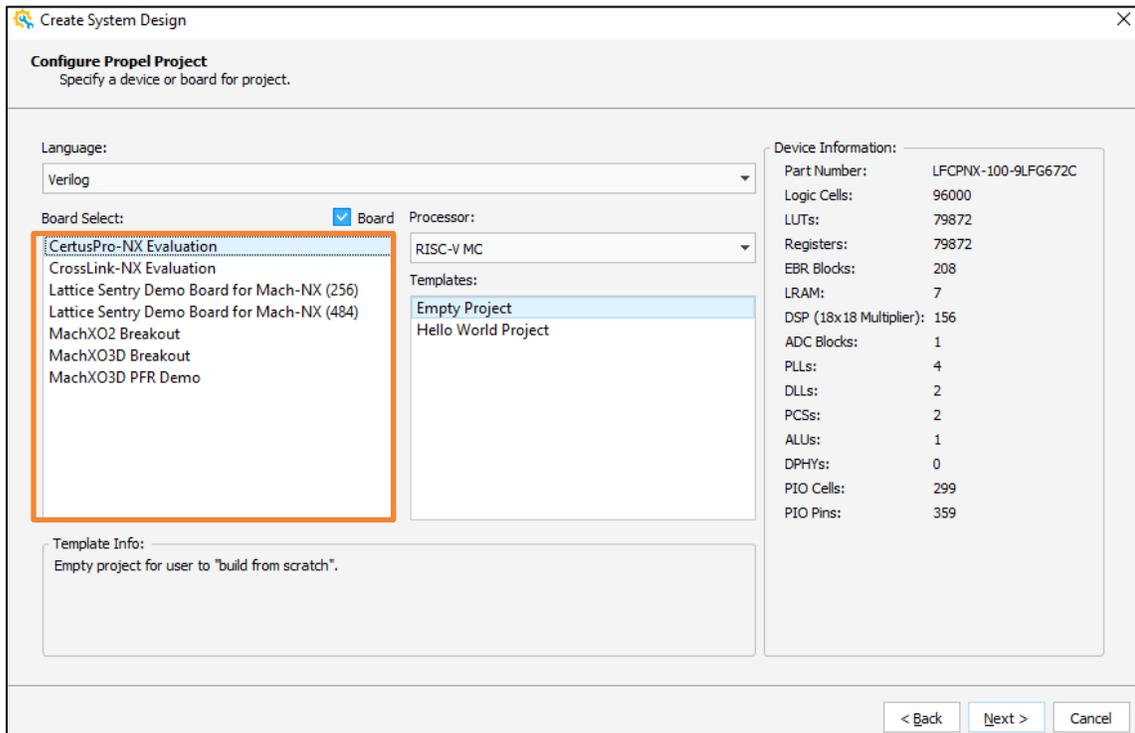

Figure 2.6. Specify a Board for a New SoC Project
- Or, to specify a board for a new SoC project, check the **Board** option (Figure 2.6).